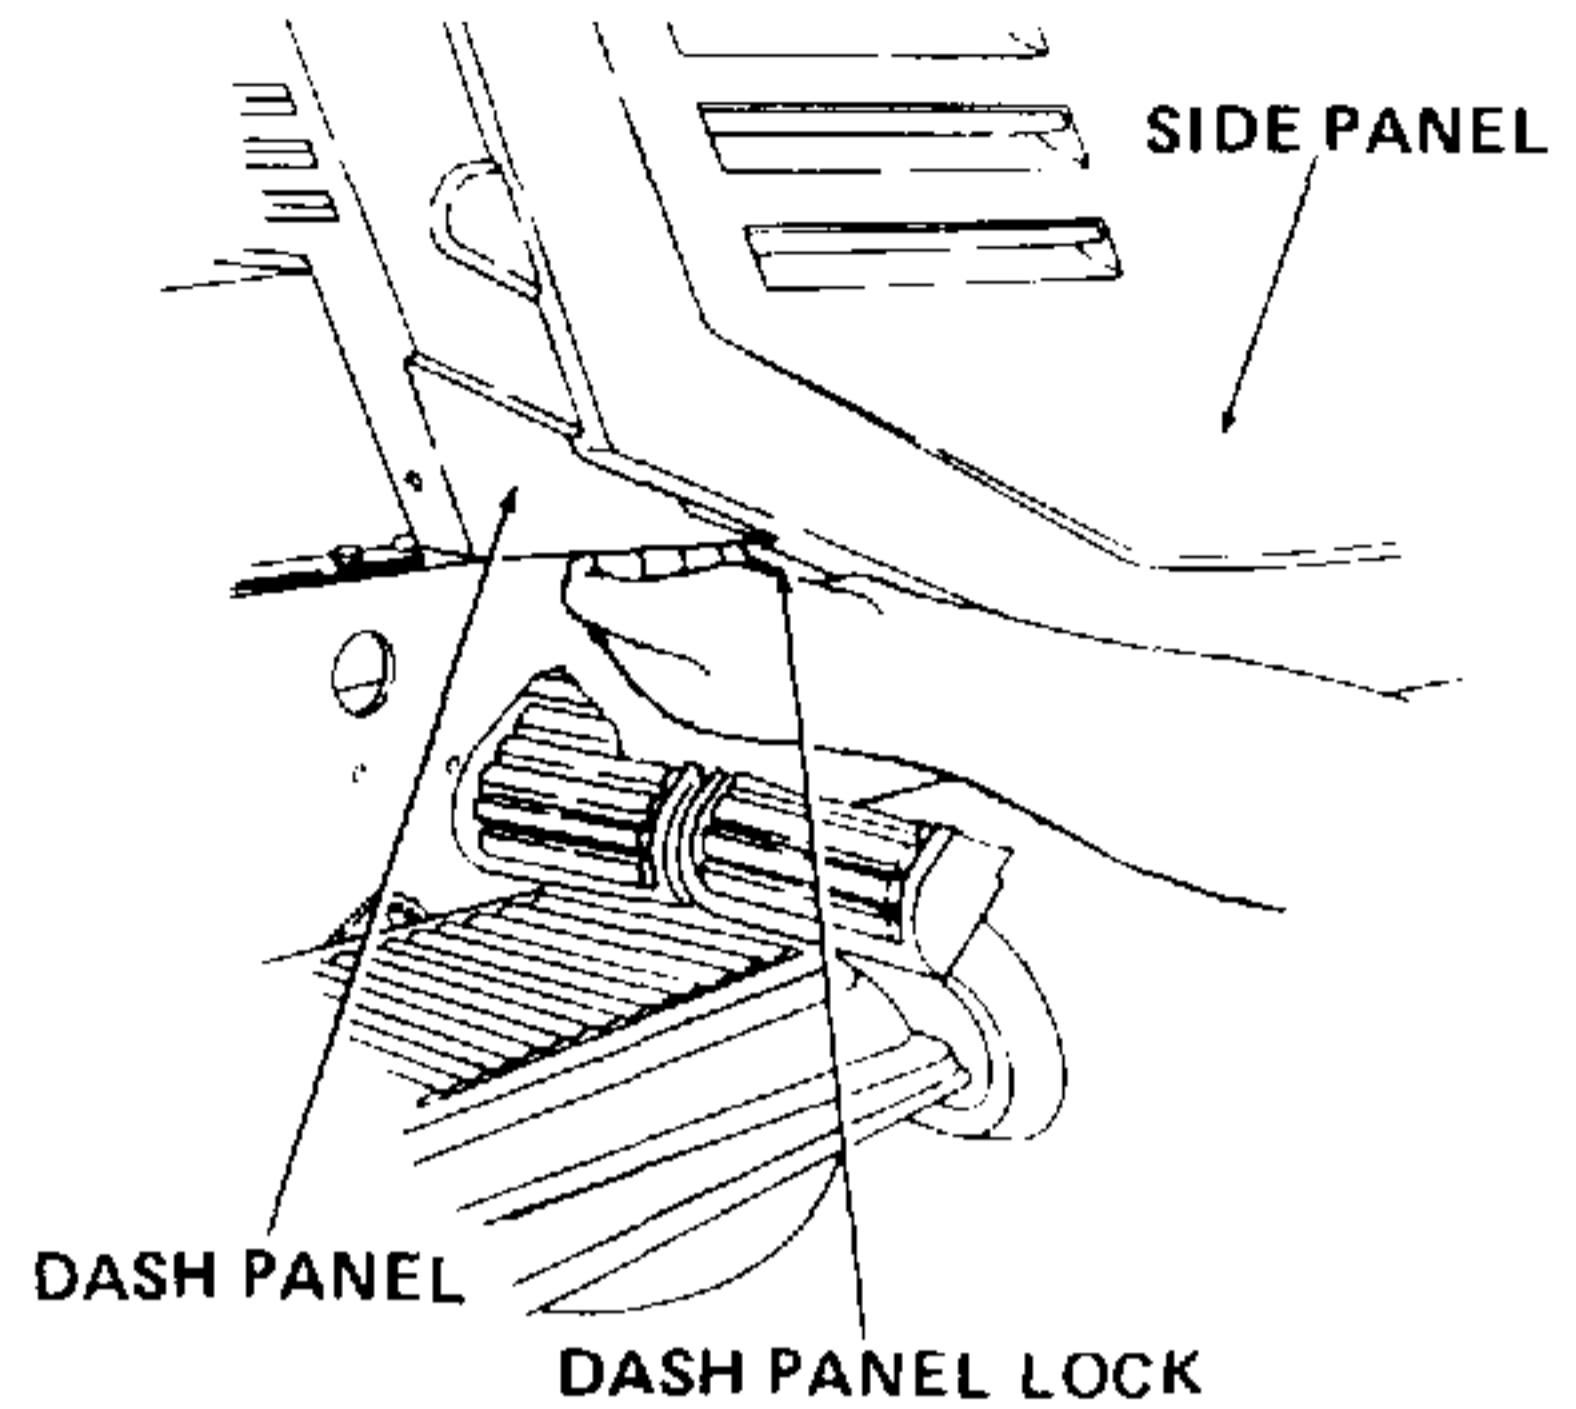

Figure 5-8. Dash Panel Lock Engaged.
- c. Gently pull tip of dash panel toward you. Push in and engage dash panel lock. Refer to Figure 5-8.
- d. Install flat washers (3) and wing nuts (2).